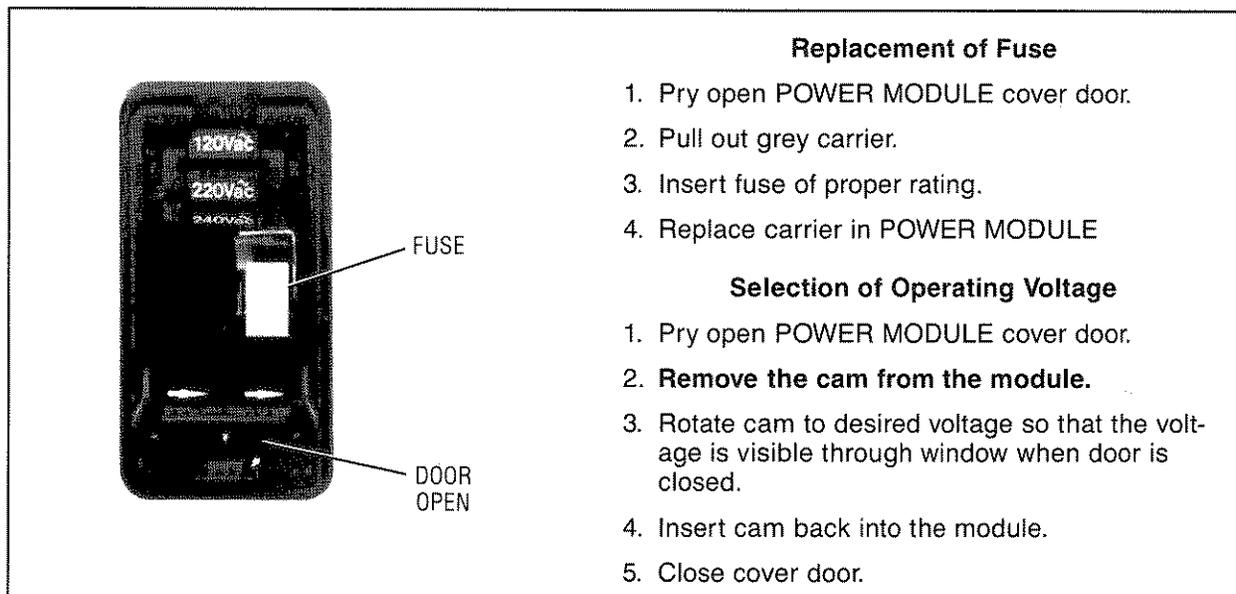

Figure 2-1. Line Voltage Selection with Power Module Rotating Cam
2. Refer to Figure 2-1. At the instrument's rear panel power line module, pry open the module door to reveal a rotating cam. **Do not rotate the cam in the module!** Remove the cam from the module, select the required voltage and replace it before power on. Note that the available line voltage must be within $\pm 10\%$ of the line voltage selected on the rotating cam. If it is not, you must use an autotransformer between the AC source and the HP 8349B.